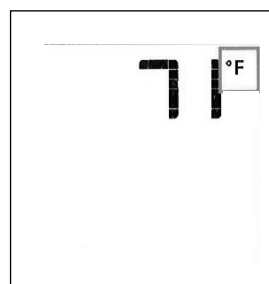

Figure 75. Room temperature readings
- With the transmitter in the OFF position, press the Thermostat Key and the Mode Key at the same time. The display screen will show the current room temperature cycling between Fahrenheit and Celsius indicators each time the keys are pressed simultaneously. See fig. 75.